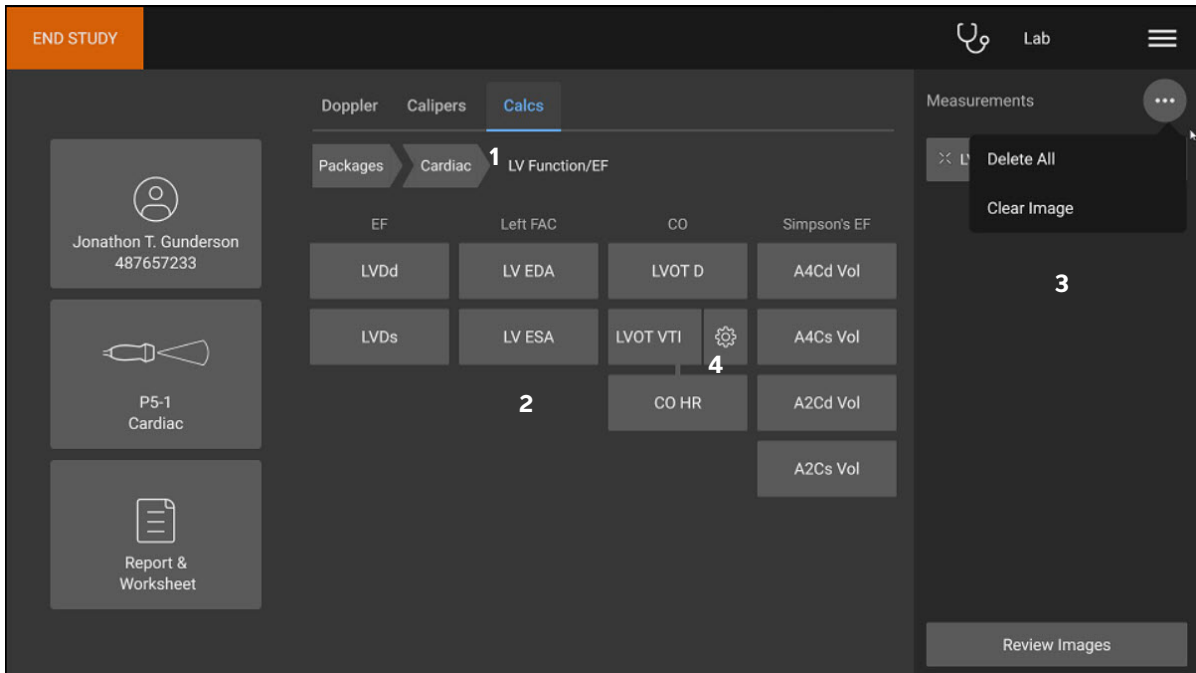

Figure 8-1 Example of a measurements and calculations page on the touch panel
- ▶ To remove all measurements visible on the clinical monitor and touch panel, tap **Clear Image** from the  menu (see Figure 8-1 on page 8-3).
- ▶ To delete all visible measurements from the report, image, and system memory, tap **Delete All** from the  menu (see Figure 8-1 on page 8-3).